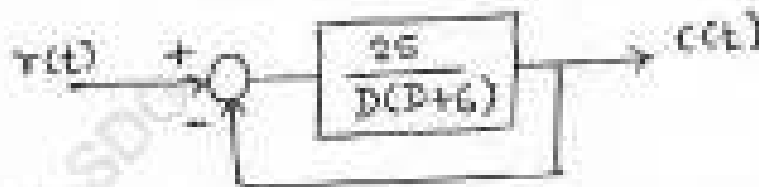

Fig. 3a
- Q.3) a) A hydraulic control system is shown in fig. 3a. The forcing function is  $u(t) = u(t)$  and all initial conditions are zero. Determine the response  $c(t)$  of system. [8]
- Q3) a) For the unity feedback control system, shown in fig. 3a, calculate value of  $k$ , so that system is critically damped. Also calculate maximum overshoot and settling time. [8]